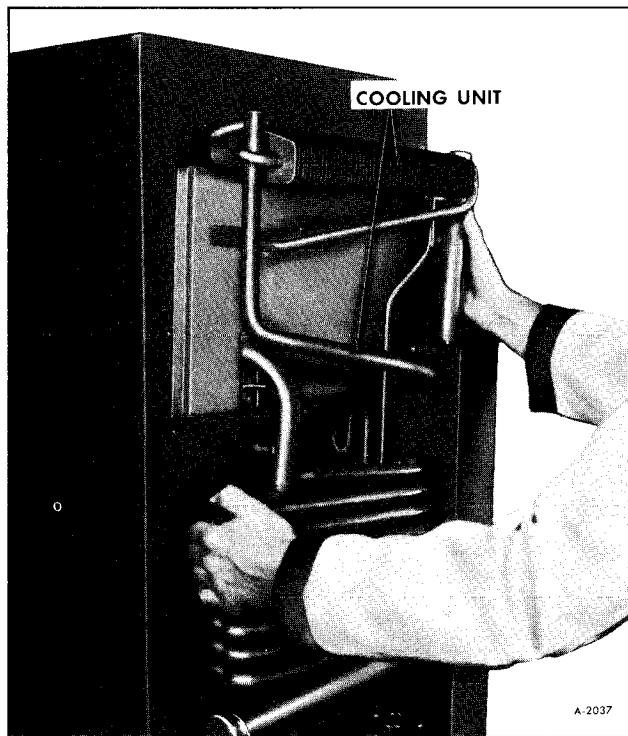

Figure 11—Removing Cooling Unit
8. Remove nine screws retaining cooling unit to back of refrigerator, and remove cooling unit (figure 11).
1. Position cooling unit on back of refrigerator and secure with nine screws (figure 11).